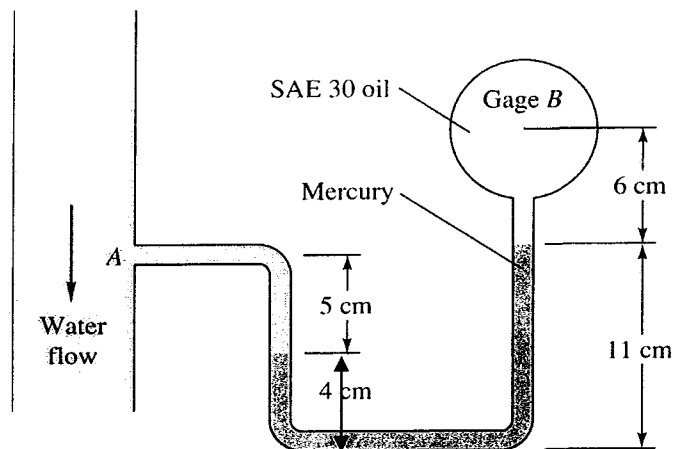

Figure 10
- (b) Pressure gage B is to measure the pressure at Point A in a water flow. If the pressure at B is 87 KPa, estimate the pressure at A in KPa. Assume all fluids are at 20°C. Please see Figure 10.